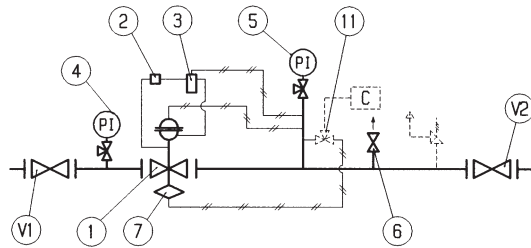

Fig. 16
5.4 MESSA IN SERVIZIO DEL REGOLATORE APERVAL CON VALVOLA DI BLOCCO INCORPORATA VB/93 (FIG. 16)
5.4 COMMISSIONING THE REGULATOR APERVAL WITH INCORPORATED VB/93 SLAM-SHUT (FIG. 16)
5.4 INBETRIEBNAHME DES REGLERS APERVAL MIT INTEGRIERTEM SICHERHEITSABSPERRVENTIL VB/93 (Abb. 16)
**5.4 MISE EN SERVICE DU DETENDEUR APERVAL AVEC VANNE DE SECURITE VB/93 INCORPOREE (Fig. 16)**
**5.4 PUESTA EN SERVICIO DEL REGULADOR APERVAL CON VALVULA DE BLOQUEO INCORPORADA VB/93 (FIG. 16)**
**5.4 ACTIVAÇÃO DO REGULADOR APERVAL E VÁLVULA SEGURANÇA INCORPORADA VB/93 (FIG. 16)**